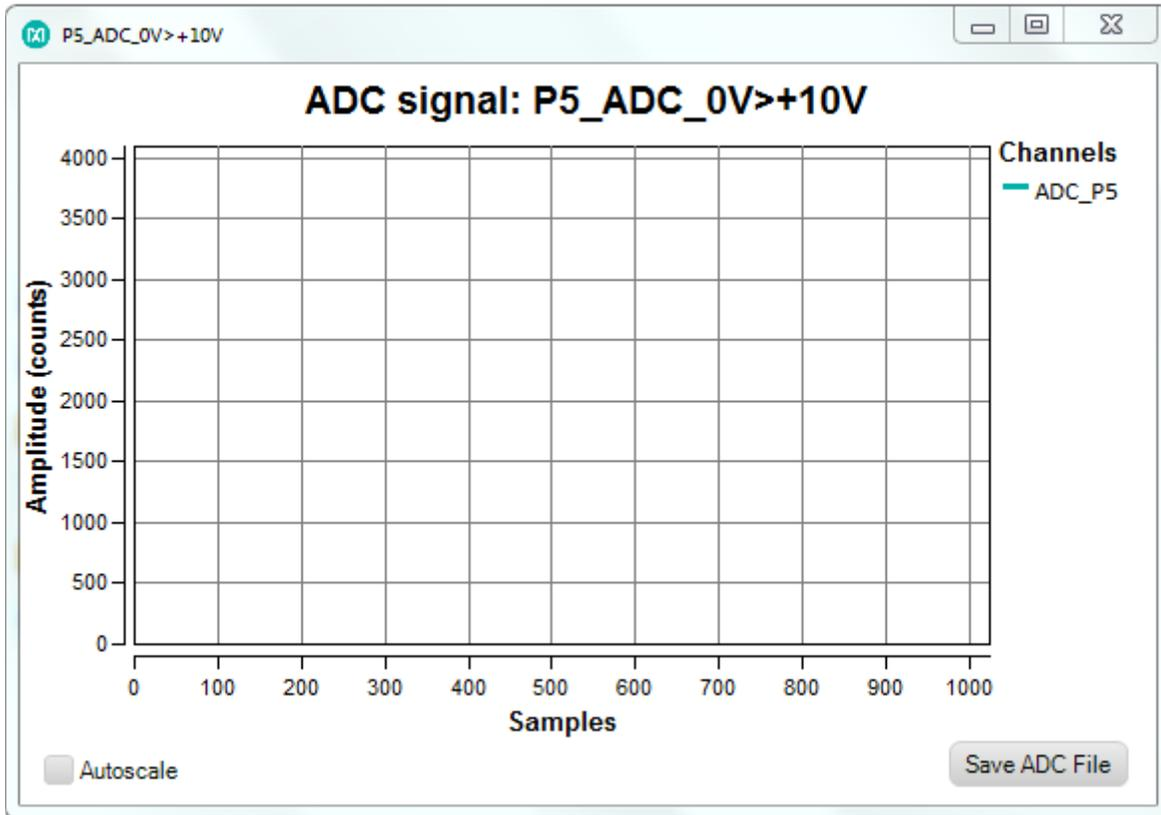

Figure 24. P5\_ADC\_0>+10V plot window.
- In the drop-down menu at the top right, select **P5\_ADC\_0>+10V** and click the **Get plot box** button. A plot window opens and shows the analog level on the ADC as shown in **Figure 24**.